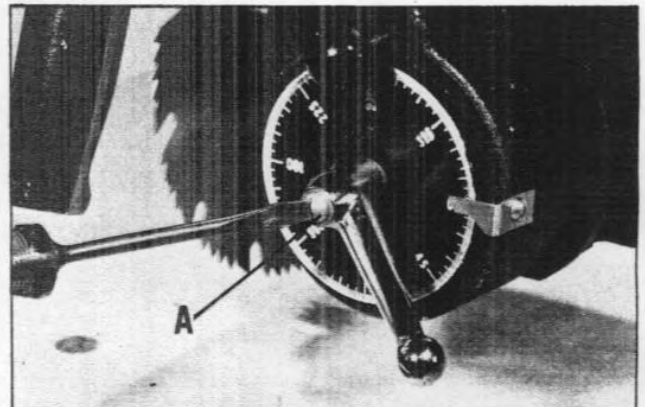

Fig. 37
Check the bevel clamp handle to make sure it locks in a convenient position. If an adjustment is necessary, simply loosen the screw (A) Fig. 37, and reposition the handle so it locks in a convenient position.